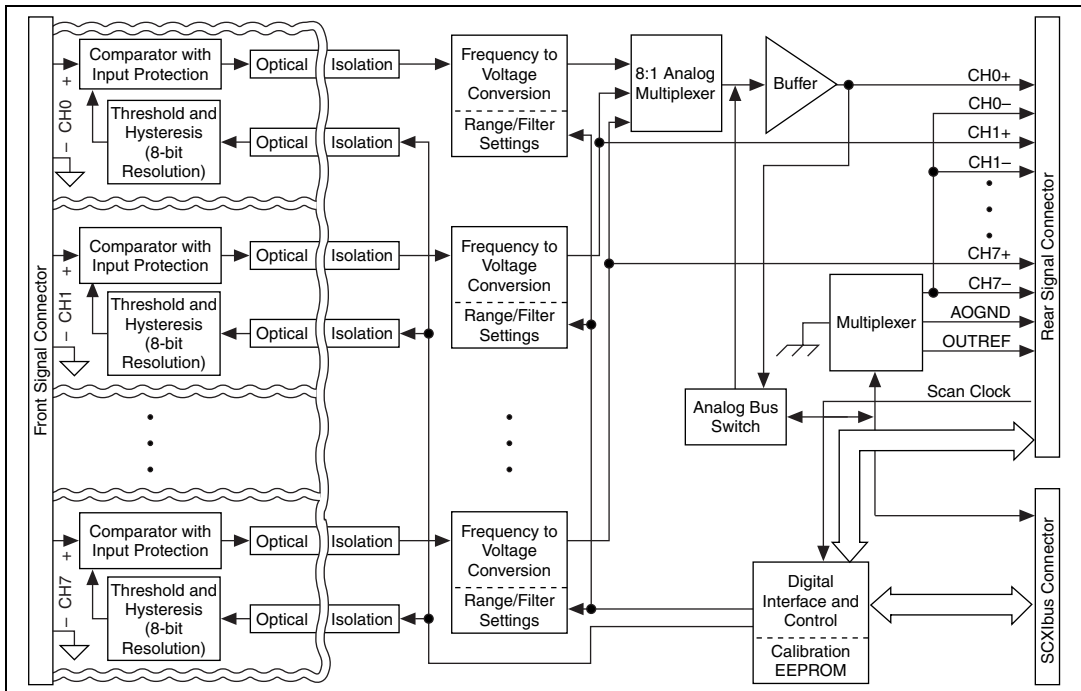

Figure 1-1. SCXI-1126 Block Diagram
| Figure 1-1. | SCXI-1126 Block Diagram..... | 1-2 |
The block diagram in Figure 1-1 illustrates the key functional components of the SCXI-1126.
- The analog bus switch circuitry, which can route the buffer output to AB0 on the SCXIbus connector instead of CH0 under software control. If the SCXI-1126 is the cabled module, you can configure the analog bus switch circuitry to route a signal placed on AB0 by another SCXI module, using the output buffer, to CH0 where it can be read by the E Series DAQ device. When a signal passes on the SCXIbus from the scanned module to the E Series DAQ device through the cabled module, the measurement is called *indirect scanning*. When a signal passes directly from the cabled module to the E Series DAQ device, the measurement is called *direct scanning*. Figure 1-1 illustrates the signal paths controlled by the analog bus switch circuitry.